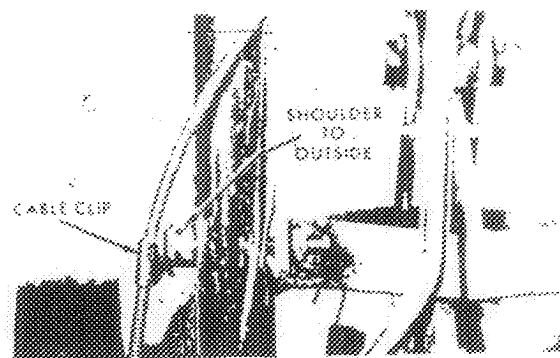

Fig. 4
4. Slip the cable clip and a shoulder spacer onto a 3/8 x 2-1/4" capscrew and secure the right hand handle bar support to the right hand handle as shown in Fig. 4. Note that the shoulder on the spacer must face to the outside. Bend the clip around the throttle control cable - do not pinch tight. Secure the left side in the same manner except there is no cable clip.